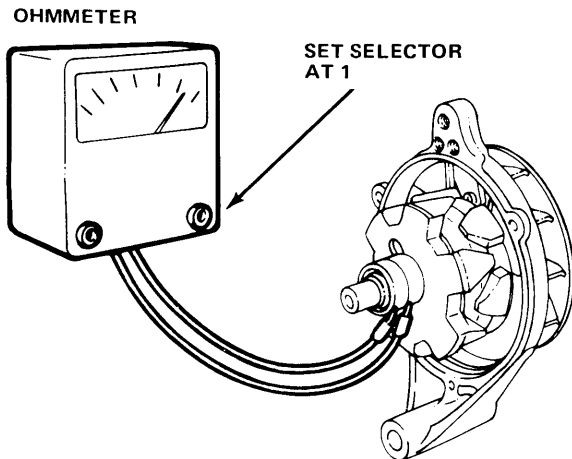

Fig. 3-11 Rotor Continuity Test
- (1) Separate front housing and rotor assembly from rear housing and stator assembly.
- (2) Set ohmmeter at 1 scale and calibrate.
- (3) Touch one lead to one slip ring and other lead to other slip ring (fig. 3-11). Ohmmeter indication should be 3.5 to 4.5 ohms.